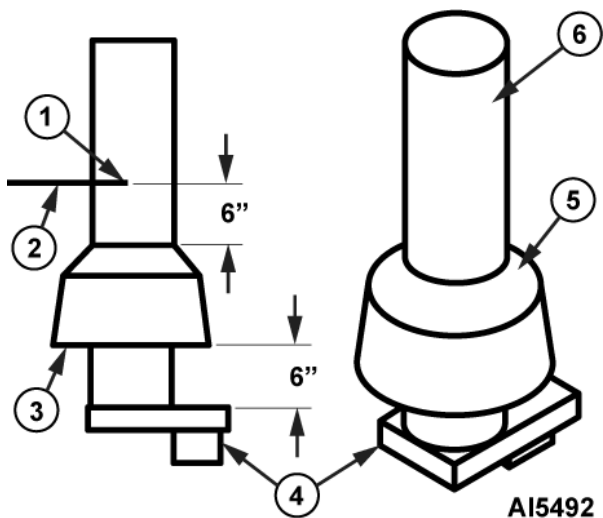

Fig. 7
- A. Insert a draft tube (2, Fig. 7) into the 6" flue stack (6, Fig. 7) customer installed, 8" above the top of the draft diverter (5, Fig. 7). If required, drill a hole in flue stack to insert draft tube (1, Fig. 7) at suction test point (1, Fig. 7).
- 2) If vacuum requirements are not met, the customer supplied flue stack (6, Fig. 7) must be modified to meet the above stated requirements.
- 1) While burner is lit, check for a back draft at the draft diverter (5, Fig. 7) relief opening (i.e. smoke emitted from a smoldering source).
- 3) If back draft indicated (smoke not going up draft diverter relief opening) the oven must not be operated, until proper adjustments have been made (correct flue stack to have adequate up draft through the draft diverter relief opening) (3, Fig. 7).
- C. Draft inducer (4, Fig. 7) energized for 15 seconds pre-purge cycle.